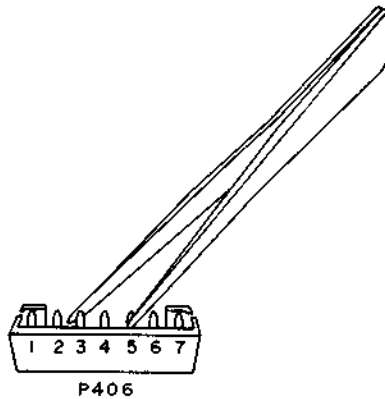

Fig. 4-1
- 3) Short pin ③ and pin ⑤ of P406 to maintain cassette tape loaded mode with a tweezer or some jumper wires as shown in Fig. 4-1.